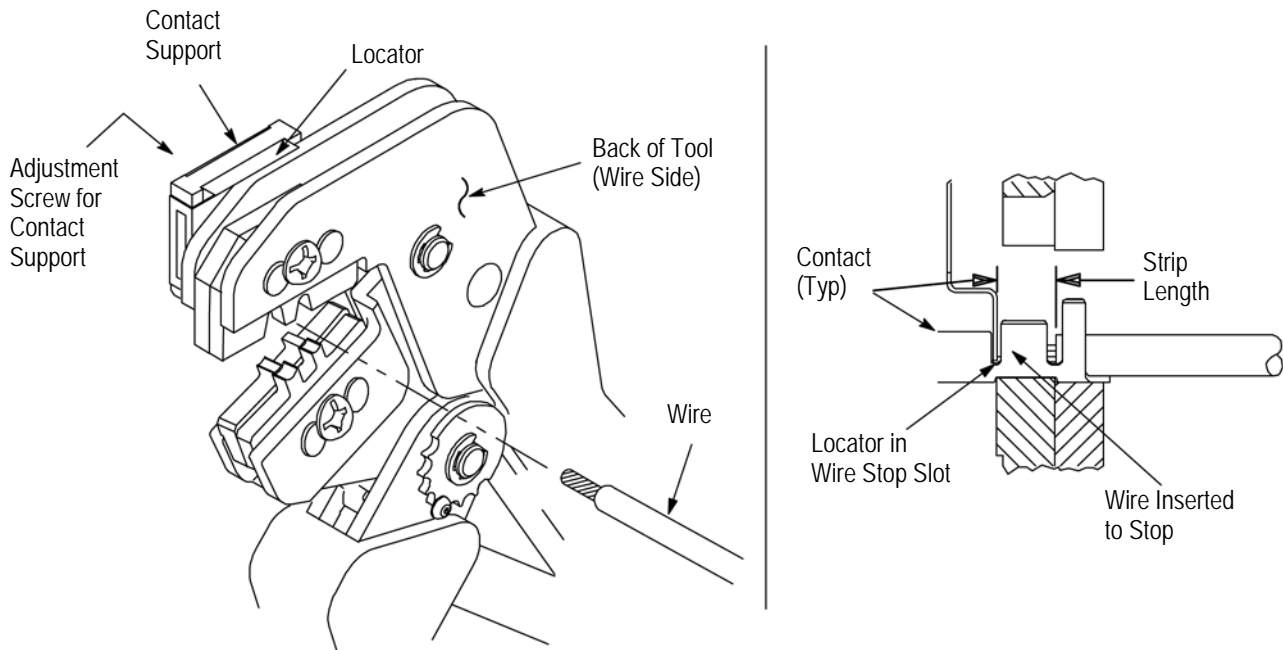

Figure 3
### 4. CONTACT SUPPORT ADJUSTMENT (Figure 3)
Refer to the table in Figure 1 and select wire of the specified size and insulation diameter. Strip the wire to the length indicated in Figure 1, taking care not to nick or cut wire strands. Select an applicable contact and identify the appropriate crimp section according to the wire size markings on the tool. Refer to Figure 3 and proceed as follows:
3. Position the contact so that the mating end of the contact is on the locator side of the tool, and so that the open "U" of the wire and insulation barrels face the top of the tool. Place the contact up into the nest so that the movable locator drops into the slot in the contact. Refer to Figure 3. Butt the front end of the wire barrel against the movable locator.
5. Insert stripped wire into contact insulation and wire barrels until it is butted against the wire stop, as shown in Figure 3.
The crimped contact may stick in the crimping area, but the contact can be easily removed by pushing downward on the top of the locator (see Figure 3).